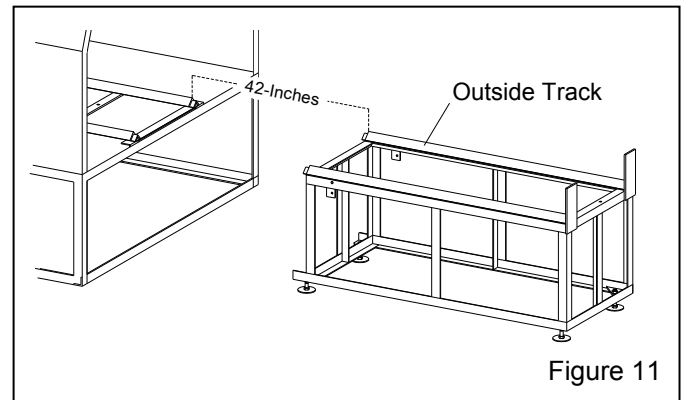

Figure 11
3.4.3 Position outside track, refer to Figure 11